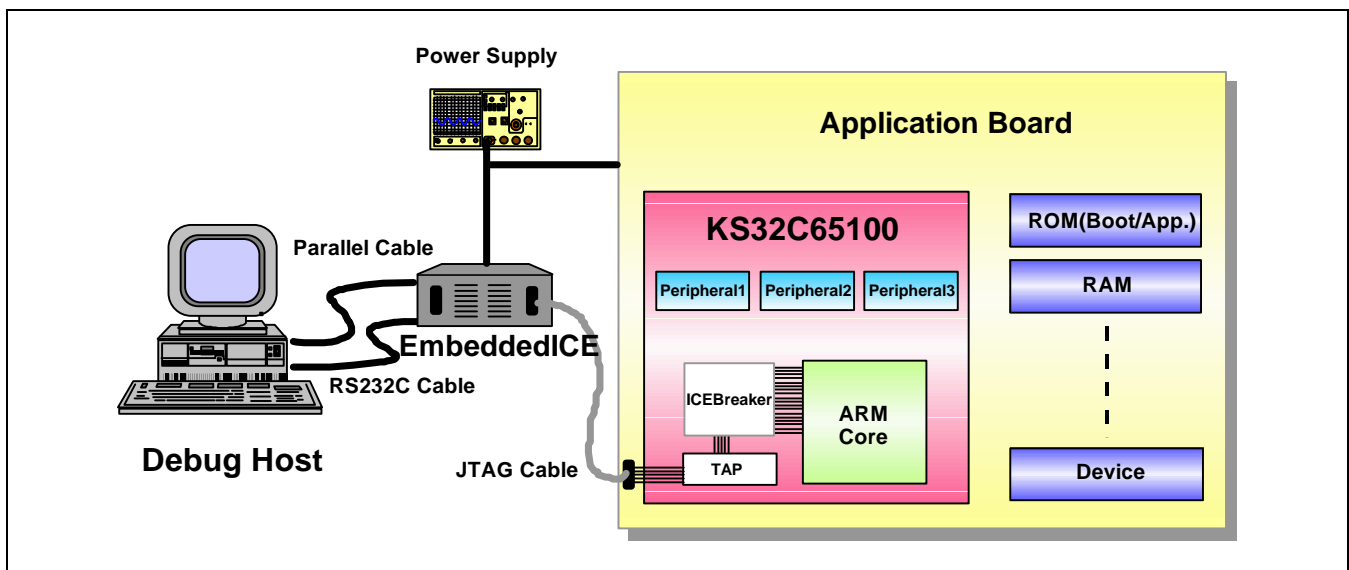

Figure 29-3. Connection to Embedded ICE
To power on the Embedded ICE interface, 7–9 V DC power supply is required. The system connection with Embedded ICE is shown in Figure 29-3.
4. Install the evaluation board and Embedded ICE interface as Figure 29-3.